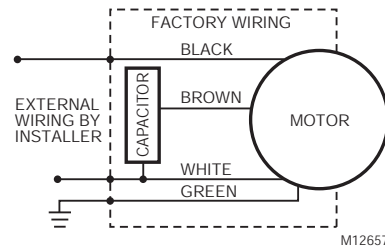

Fig. 3. Typical F111 (series 1,2) 120V, 60 Hz or 208/230, 50/60 Hz wiring diagram.
4. Refer to Fig. 3 and 4 for typical wiring diagrams.